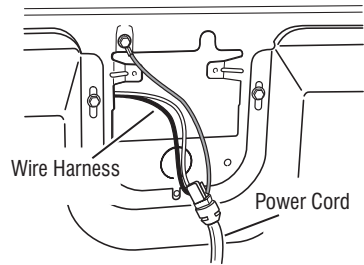
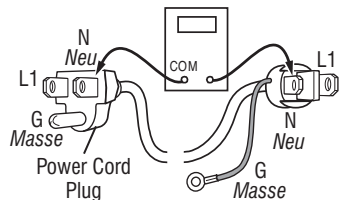

Figure 6 - Power cord-to-wire harness connection for gas dryer.
Figure 7 - Power cord terminals, gas dryer.
3. Check that the power cord is firmly connected to the dryer's wire harness. See Figure 6.
5. With an ohmmeter, check for continuity between the neutral (N) terminal of the plug and P8-3 (white wire) on the CCU. The left-hand side of Figure 7 shows the position of the neutral terminal (N) on the power cord plug. Also see Figure 2, page 9.
- If there is no continuity, disconnect the white wire of the main harness from the power cord at the location illustrated in Figure 6. Test the continuity of the power cord neutral wire as illustrated in Figure 7. If an open circuit is found, replace the power cord. Otherwise, go to step 6.
- If there is no continuity, check the continuity of the power cord in a similar way to that illustrated in Figure 7, but for power cord's L1 wire.